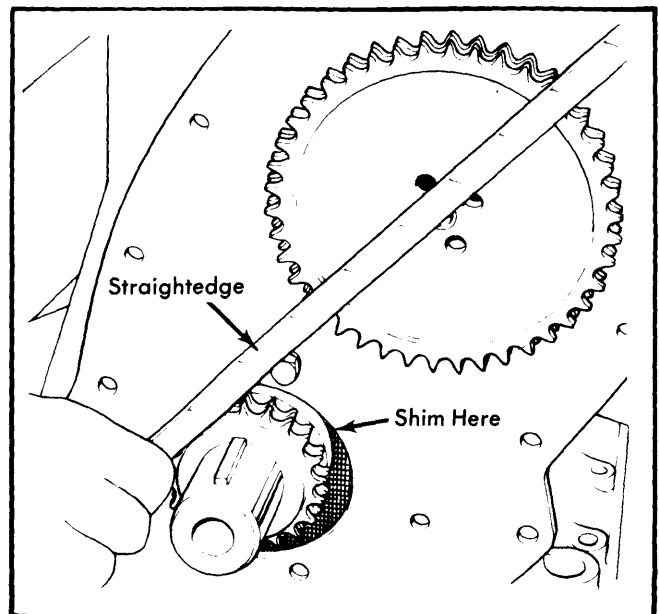

Fig. 8 Measuring Camshaft and Crankshaft Alignment
**Installation** - 1) Temporarily refit sprockets without chain. Check sprocket alignment as shown in Fig. 8. Shim behind crankshaft sprocket. Shims are available in .004" (.10 mm) and .006" (.52 mm).